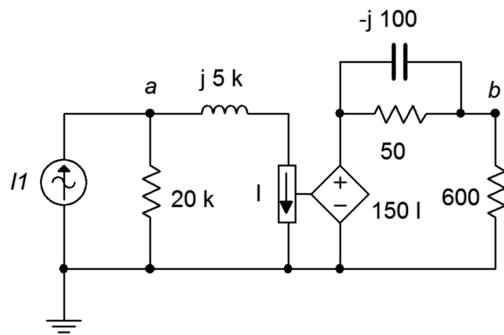

Figure 5.20
39. Determine v_a and v_b in the circuit of Figure 5.20 if the source $I = 2\text{E}-3\angle 0^\circ$.
40. In the circuit of Figure 5.20, determine the current flowing into the $600\ \Omega$ resistor if $I = 1\text{E}-3\angle 180^\circ$.